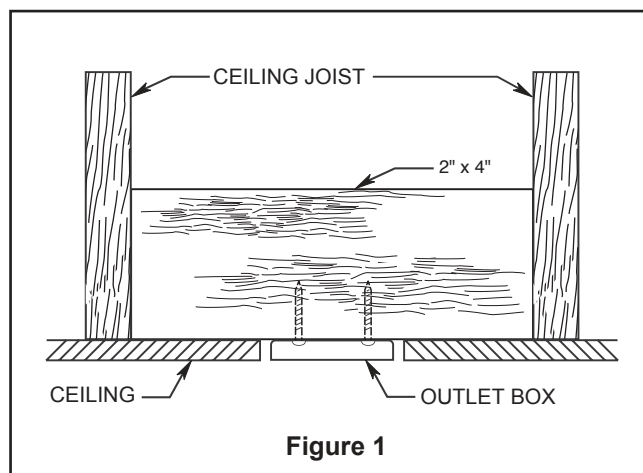
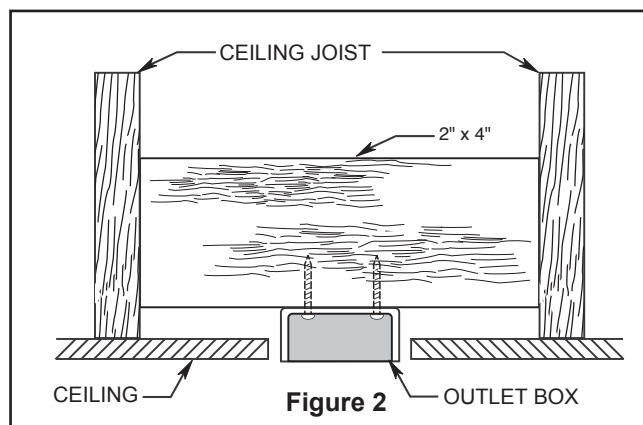
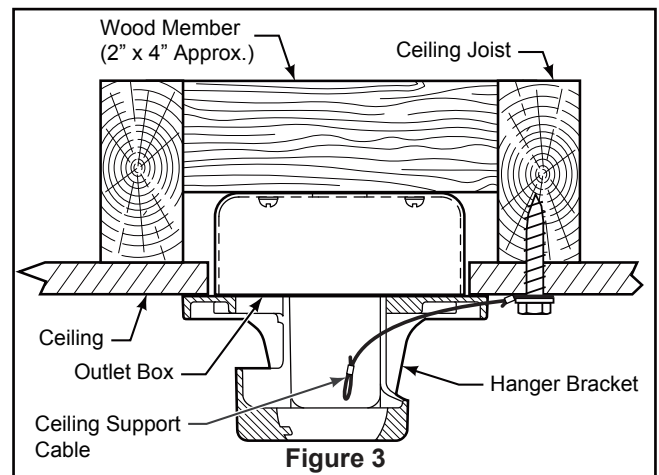

Figure 1
Figure 2
Figure 3
Your new ceiling fan will require a grounded electrical supply line of 120 volts AC, 60 HZ, 15 Amp Circuit. Electrical code requires use of a fan-rated outlet box to support the extra weight and motion associated with a ceiling fan. A fan-rated box will be labeled as such and typically supports up to a 70lb ceiling fan. Fan-Rated Outlet Boxes vary in ratings and design. Ensure the ratings of your ceiling fan outlet box meet the requirements for the ceiling fan being installed. Figure 1, Figure 2 and Figure 3 depicts different structural configurations that may be used for mounting the outlet box.
Low profile box (Figure 1)
Deep box (Figure 2)
Deep box with brace (Figure 3)
3. Loosen the two set screws and locking nuts in the downrod support of the motor assembly. Route the black, white and blue wires and safety cable through the downrod. (Figure 3)
1. Securely attach the hanger bracket to the outlet box using the outlet box screws and washers supplied with the outlet box. (Figure 3)
2. Drill a 1/4" pilot hole into the building structure to prevent splitting or cracking with installation of the lag bolt. Using the 3/8" x 2" lag bolt and flat washer, attach safety cable to ceiling joist or wood structural member. The lag bolt will pass through the flat washer, safety cable loop, and into the building structure. (Figure 3) **NOTE:** Ceiling support cable cannot be secured to outlet box only, it must be directly secured to ceiling joist or structural member using the 3/8" x 2" lag bolt and flat washer. (Figure 3)
2. Slide the receiver into the hanger bracket before wiring as shown in figure 3.
3. Remove one of the three screws in the switch housing assembly. Retain the screw for later and slightly loosen the remaining two screws. (Figure 3)
- 3.** To make fan operational, install 23A/12V battery (included) in hand-held remote transmitter, with fan power off. Then follow the remote code setting process. (If not used for long periods of time, remove battery to prevent damage to transmitter). Store the remote away from excessive heat or humidity. (Figure 3)